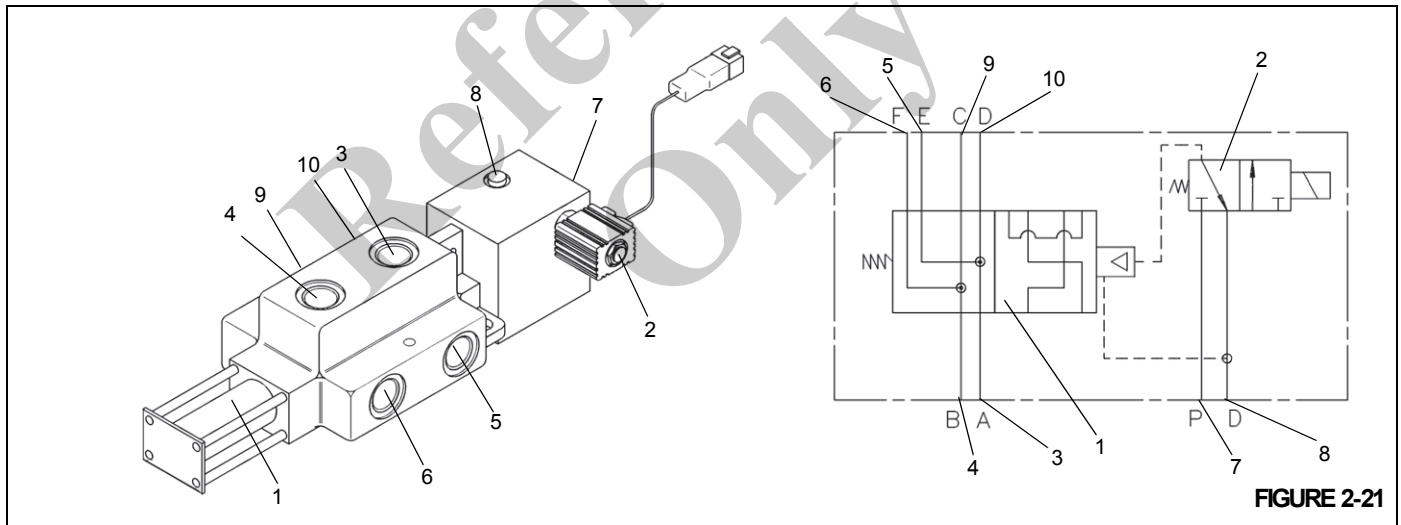

FIGURE 2-21
The series parallel selector valve Figure 2-21 is used to select the swing motor speed. It is located on the outside of the turntable right hand side plate. It consists of a pilot operated two-position four-way valve (1) and a solenoid actuated two position three-way valve (2) Figure 2-21 that is the pilot valve. It is plumbed between the swing directional control valve and the swing motors.